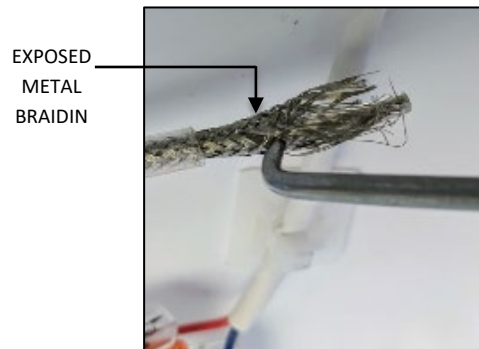
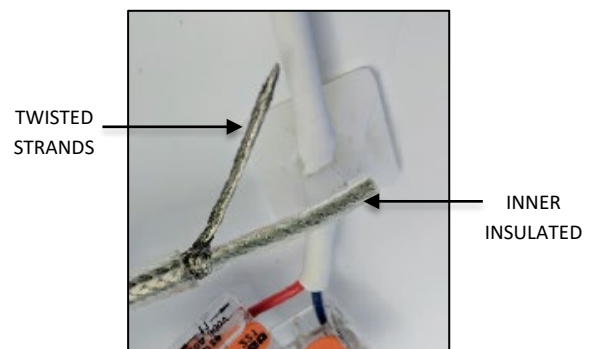

FIG. 22
FIG. 23
- Using a small pointed object, begin unweaving the exposed metal braiding as shown in FIG. 22 below. Position the unwoven metal strands on one side of the inner insulated wire and twist the individual strands together as shown in FIG. 23 below.